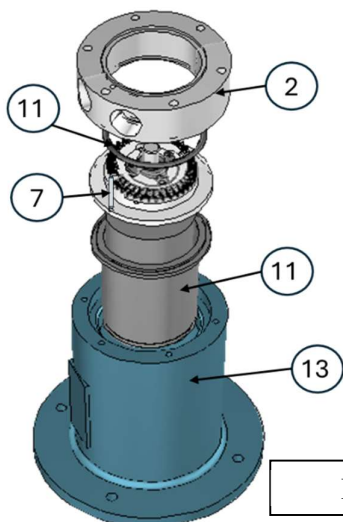
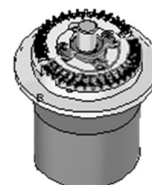

Figure 5
Figure 6
5.Remove (Figure 5) the pump head (2), bracket (13) and rear casing (11) to isolate the internal impeller and magnet assembly (Figure 6). At the same time, remove and replace the O-Ring (16) and the elastic dowel pin (7). Figure 5